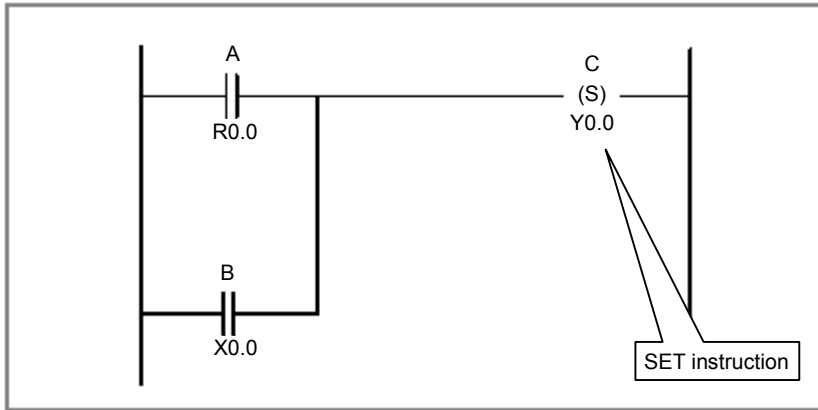

Fig. 4.1.14
- (1) This instruction keeps the status of the specified address to ON. It finds the logical sum of the operation result (ST0) and the specified address and outputs it to the specified address.
- (2) For examples of how the SET instruction is used, see Fig. 4.1.14 and Table 4.1.14.
- (3) Caution